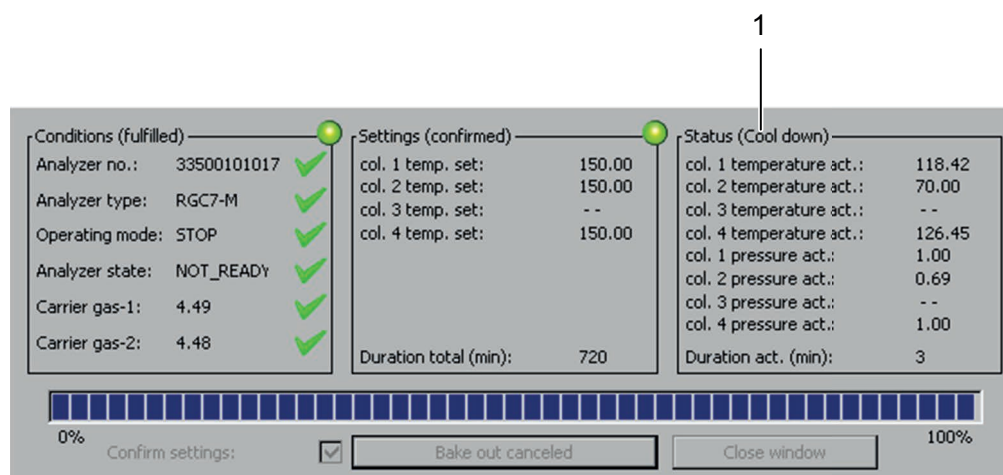

Fig. 41: Menu Bake-out – Cool-down process
- ➡ Actions and interventions in the cool-down process are no longer possible, i.e. you now have to wait until the cool-down time (always one hour) is over (cf. fig. 41).